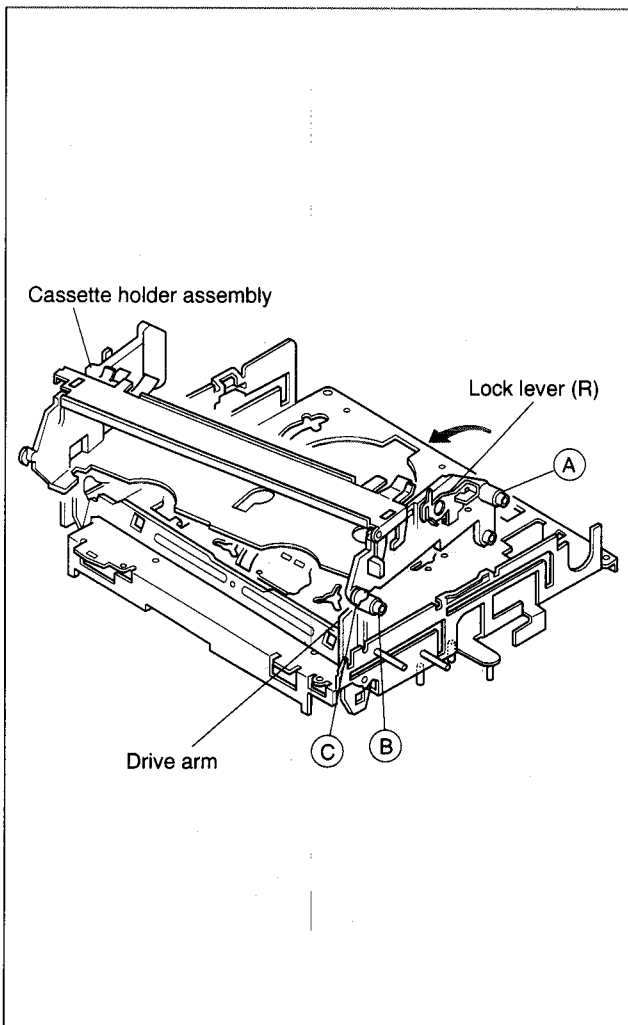

Fig. 2-2-8
- (3) Hold the drive arm upright and fit the leg ③ on the right side of the cassette holder assembly into the groove. (See Fig.2-2-8.)
- (4) While swinging the lock lever (R) of the cassette holder assembly toward the front, put the legs ④ and ⑤ into the rail. (See Fig.2-2-8.)